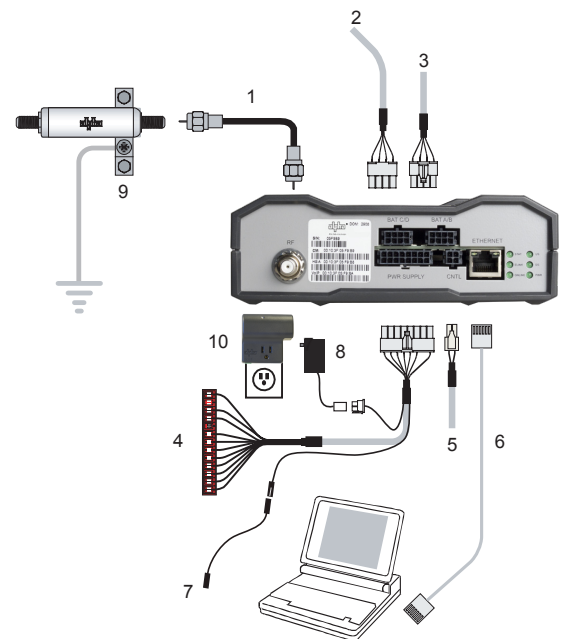

Figure 3, Connecting the transponder to the system
3. Connect the transponder to the system as shown in figure 3.